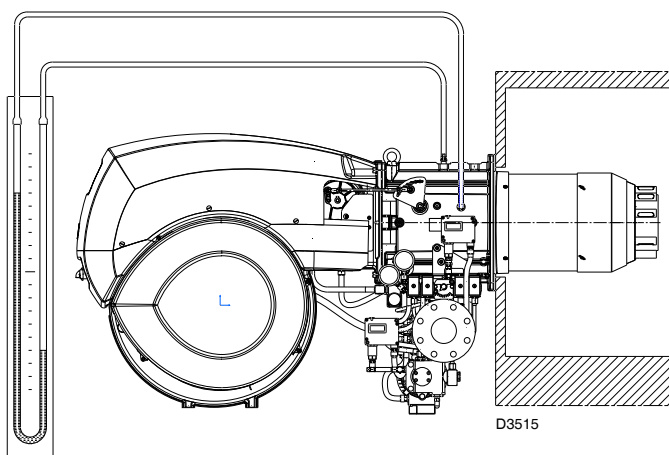

Fig. 31
- Fit a U-type manometer or a differential pressure gauge (Fig. 31), with the (+) fitting on the header gas pressure tap and (-) fitting in the combustion chamber.
The arrival of gas at the sleeve is indicated by the U-type manometer (Fig. 31).